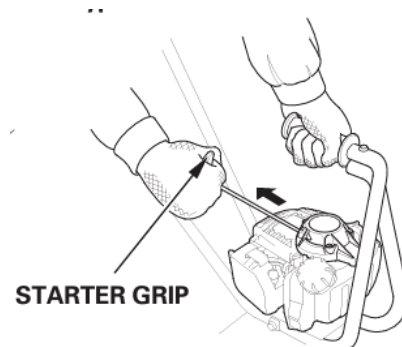

Figure 3
5.5 Pull the starter rope (Figure 3) lightly until you feel resistance, then pull briskly in the direction of the arrow.